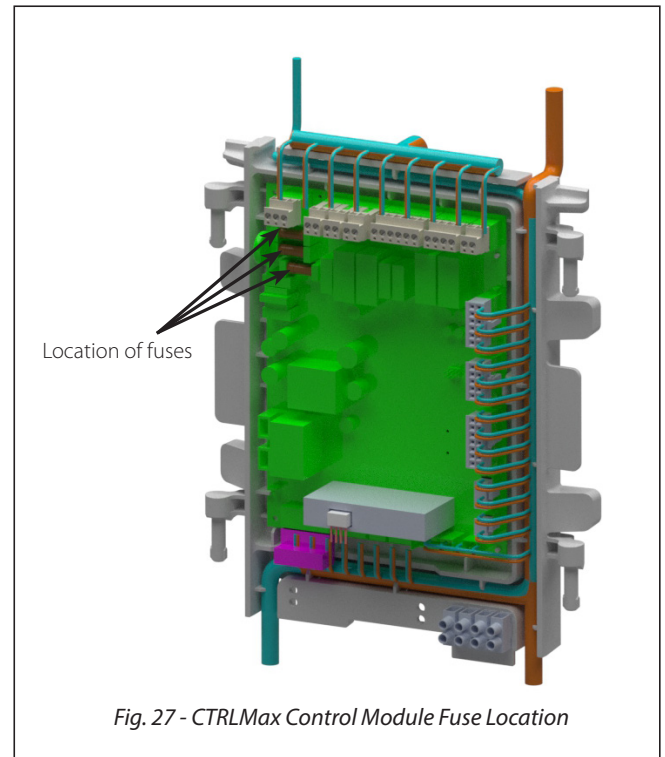

Fig. 27 - CTRLMax Control Module Fuse Location
- The CTRLMax control module contains 3 internal replaceable 5A fuses as shown in *Fig. 27 below*.